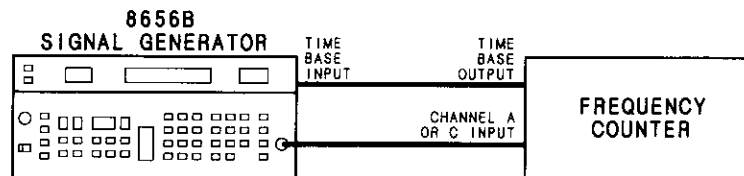

Figure 4-10. DC FM Test Setup
30. Connect the RF OUTPUT from the Signal Generator to the INPUT of the frequency counter, and connect the Signal Generator TIME BASE INPUT to the frequency counter TIME BASE OUTPUT as shown in Figure 4-10.